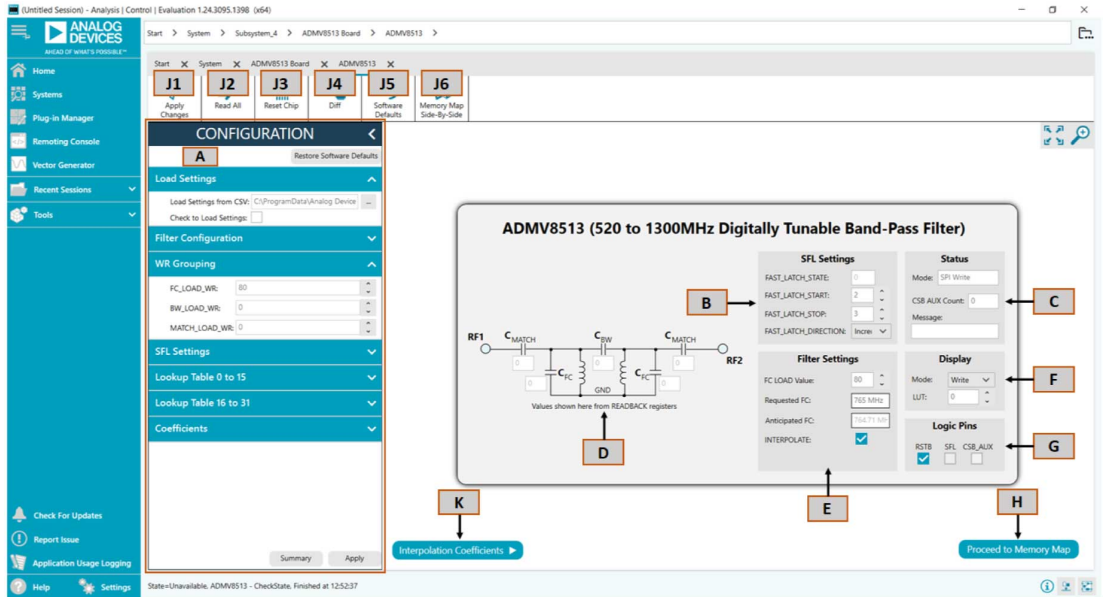

Figure 7. ADMV8513 Chip Plug-In with Labels
The full screen ADMV8513 chip plug-in with labels is shown in Figure 7. The labels correspond to items listed in Table 1, which
Table 1. ADMV8513 Chip Plug-In Label Functions (See Figure 7)
Table 1. ADMV8513 Chip Plug-In Label Functions (See Figure 7) (Continued)
E	<p>The Filter Settings section shows several controls for configuring the filter. Depending upon if INTERPOLATE is enabled, various controls can be visible. When INTERPOLATE is enabled (as shown Figure 7), the following controls are visible:</p> <p>FC_LOAD Value: this numeric up and down box (0 to 255) is used to set the desired center frequency value. Note that this is a unitless quantity, where a 0 corresponds to the lowest center frequency, and 255 corresponds to the highest center frequency.</p> <p>Requested FC: enter in a requested center frequency in this text box. The value entered is used to compute the closest FC_LOAD Value for that frequency of operation.</p> <p>Anticipated FC: this text box is an estimation of the operating center frequency based upon the FC_LOAD Value.</p> <p>INTERPOLATE: this check box enables the interpolation functionality on the chip.</p> <p>When INTERPOLATE is disabled (not shown in Figure 7), the following controls are visible:</p> <p>FC_LOAD Value: this numeric up and down box (0 to 255) is used to set the desired center frequency capacitor code.</p> <p>BW_LOAD Value: this numeric up and down box (0 to 255) is used to set the desired bandwidth capacitor code.</p> <p>MATCH_LOAD Value: this numeric up and down box (0 to 255) is used to set the desired input and output match capacitor code.</p> <p>INTERPOLATE: this check box enables the interpolation functionality on the chip.</p> <p>READBACK Values to Filter Settings: this button is available when interpolation is disabled. Click this button to populate the read back values from the hardware into the FC_LOAD, BW_LOAD, and MATCH_LOAD values.</p>
If a reset of the ADMV8513 chip is required on the ADMV8513-EVALZ, click **Reset Chip** (see Figure 7, Label J3, and Table 1 for additional information). This automated sequence performs the following actions:
- ▶ The  $\overline{\text{RST}}$  pin can also be pulled low from within the **ACE** software by unchecking the **RSTB** check box in the lower right corner of Figure 7 (see Label G). When using this option, be sure to click the check box again to return the  $\overline{\text{RST}}$  pin high.